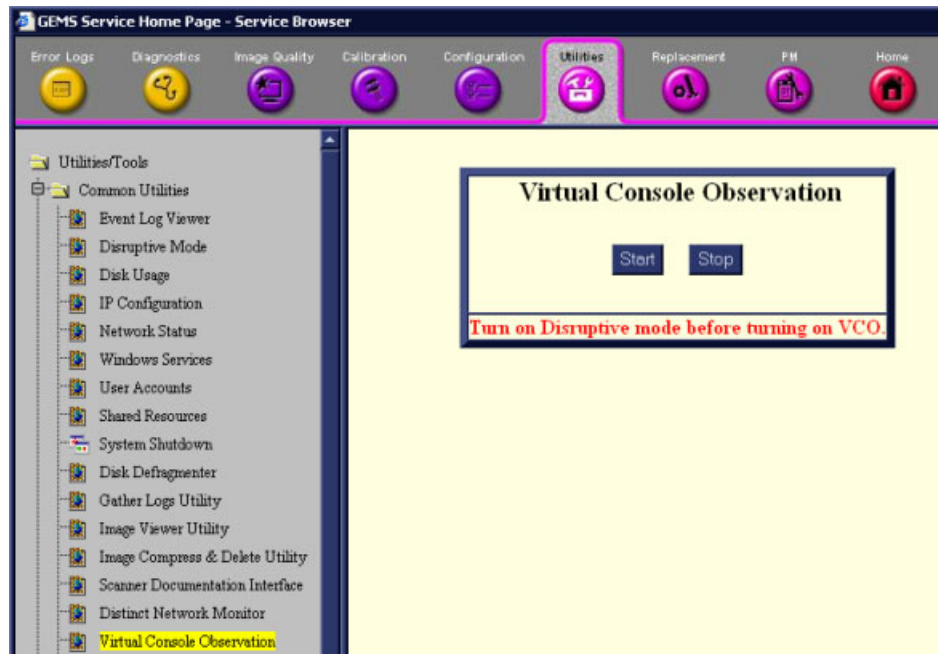

Figure 7-136 Virtual Console Observation
- **Virtual Console Observation** - this is started once the Disruptive mode has been invoked. See Figure 7-136.